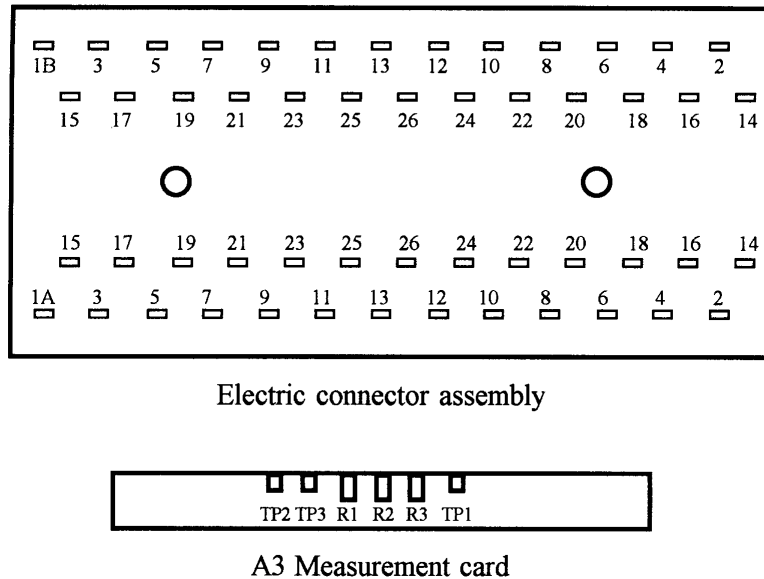

Figure 1. Test and connection points and adjustments.
- (1) Set the **FUNCTION** switch to **CONT. P.**
- (2) Set the **CABLE LENGTH** switch to **250.**
- (3) Set **AUTO/SINGLE** switch to **SINGLE.**
- (4) Press the **RESET** pushbutton.
- (5) Set resistance standard No. 2 for 20.4Ω and connect between pins 1A and 1B (fig. 1) of the electric connector assembly (connected to end of adapter cable).
- (6) Press the **ADVANCE** pushbutton once to test circuit **01.** TI **TEST** light will be on and the **FAULT** light will be on; if not, perform **b** below.
- (7) Press the **RESET** pushbutton and set resistance standard No. 2 for 19.6Ω .
- (8) Press the **ADVANCE** pushbutton once to test circuit **01.** TI **FAULT** light will remain off; if not, perform **b** below.
- (9) Press the **RESET** pushbutton.
- (1) Set **POWER** switch to **OFF** and disconnect power cable from ac power source.
- (2) Remove TI from its casing. Remove the end plate (located near the interface connector J100). Ensure that potentiometers R1, R2, and R3 and the test points TP1, TP2, and TP3, located on A3 measurement card, are readily accessible (fig. 1).
- (3) Reconnect TI to ac source and set **POWER** switch to **A.C.**
- (4) Set the **FUNCTION** switch to **CONT. P.**
- (5) Set the **CABLE LENGTH** switch to **250.**
- (6) Set **AUTO/SINGLE** switch to **SINGLE.**
- (7) Press the **RESET** pushbutton.
- (8) Press the **ADVANCE** pushbutton once; circuit **01** will be under test, **FAULT** light should be on, and **TEST** light should be on.
- (9) Set resistance standard No. 2 for 20.0Ω and connect between pins 1A and 1B (fig. 1) of the electric connector assembly (connected to end of adapter cable).
(10) Monitor dc voltage at TP2 with a digital multimeter using the cage as the ground reference.
(11) Adjust R1 so that the voltage at TP2 is about 2.5 V (this voltage is unstable and just between the high and low crossover points) (R).
(12) Press the **RESET** pushbutton and disconnect resistance standard No. 2.
(13) Set **FUNCTION** switch to **IR (0.1M)**.
(14) Set **AUTO/SINGLE** switch to **SINGLE**.
(15) Press the **ADVANCE** pushbutton once; the **TEST** light should be on and the **FAULT** light should be off.
(16) Set resistance standard No. 2 for 100 k Ω and connect between pins 1A and 1B (fig. 1) of the electric connector assembly (connected to end of adapter cable).
(17) Use digital multimeter to measure dc voltage at TP1, with the cage as ground reference. The voltage should be about 900 mV.
(18) Monitor the dc voltage reading at TP3; if it is different from that at TP1, adjust R3 so that voltage at TP3 is the same (± 1 mV) as that at TP1 (R).
(19) Press the **RESET** pushbutton and disconnect resistance standard No. 2.
(20) Set **FUNCTION** switch to **IR (10M)**.
(21) Set **AUTO/SINGLE** switch to **SINGLE**